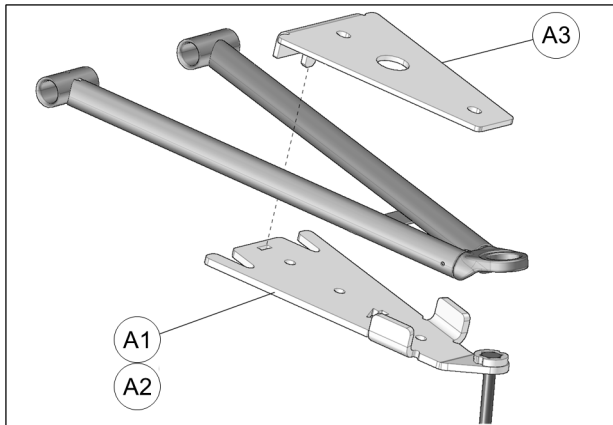

Fig. 18
- Position bottom part of anchor bracket (**A1-A2**) under lower suspension arm. Position top part (**A3**) over suspension arm and insert tenon in mortise cut in bottom part. See Fig. 18